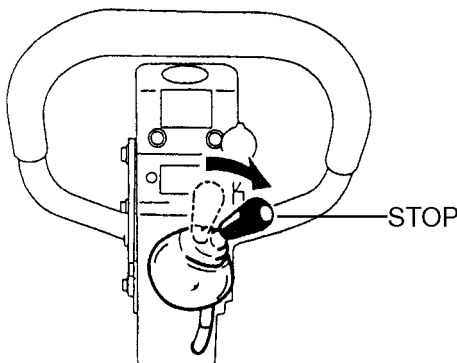

Figure 18. Throttle Lever (Stop)
2. Turn the throttle lever to the **STOP** position (Figure 18) to stop the engine.